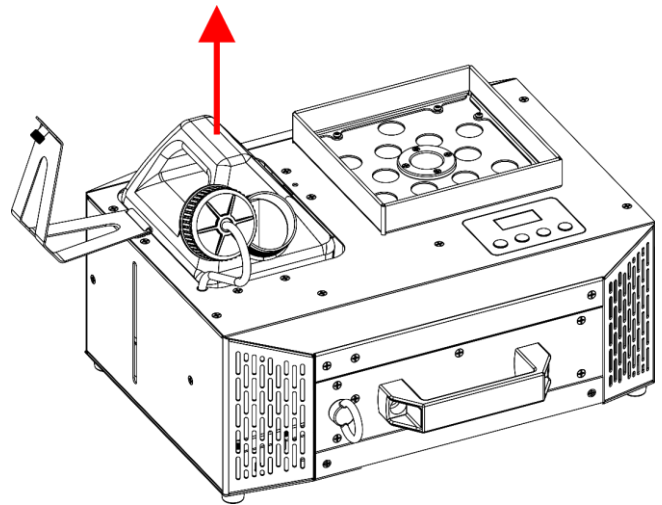

Fig. 41
- 05) Take out the **fluid tank (02)**, as shown in Fig. 41.